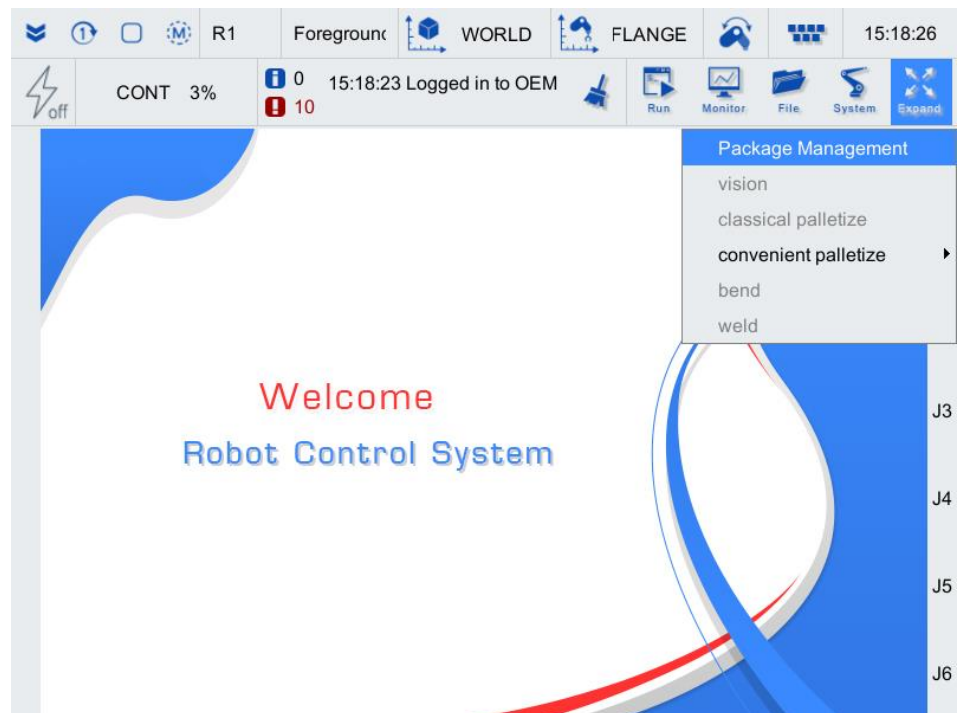

Figure 2-7 Package management list
- Step1. Click [Extend] to pop up the drop-down list as shown in Figure 2-7.